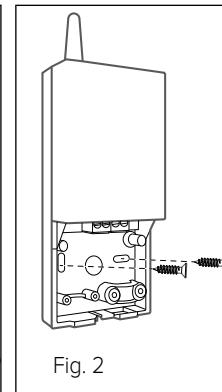

Fig. 2
- Fix the aerial's base to the wall at the chosen position, using the plugs and screws supplied with the kit (Fig. 2).